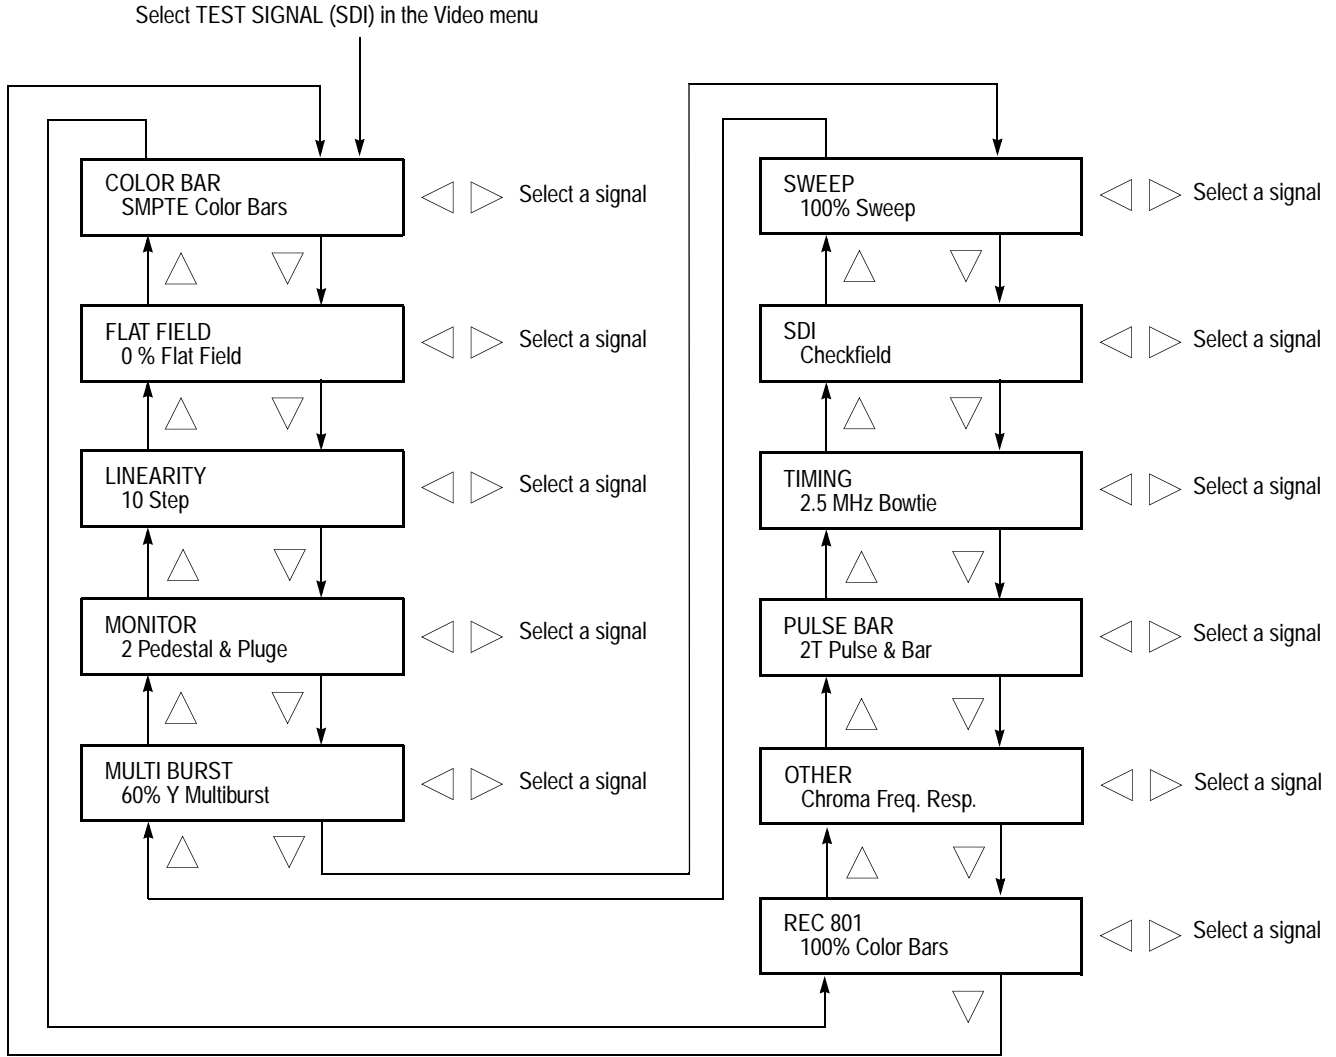

Figure 3-4: Test signal (SDI) submenu diagram
**Test Signal (SDI) Submenu** This menu allows you to select a serial digital test signal for a SDI output(s). Use the up (▲) or down (▼) arrow button to scroll through the menu. Figure 3-4 shows the Test signal (SDI) submenu diagram.